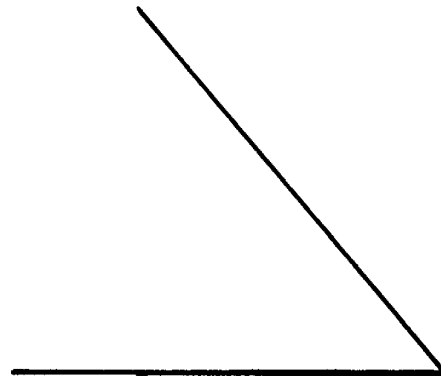

Fig. 2
5. Using drawing instruments, i.e. a compass, bisect the given angle in figure 2.